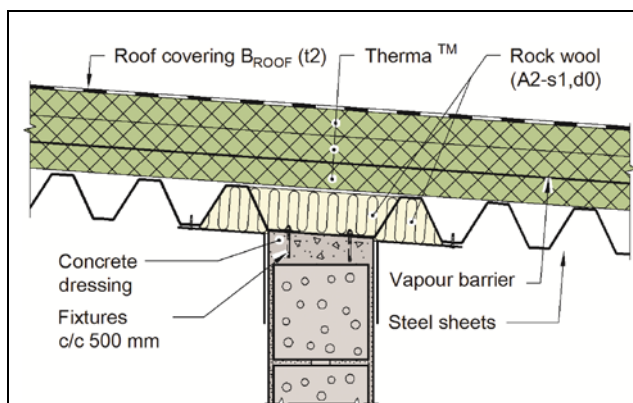

Fig. 5
- On roofs with load-bearing profiled steel sheets, the profiles must be filled with non-combustible insulation (A2-s1,d0) from both sides above fire compartment walls. See Fig. 5.